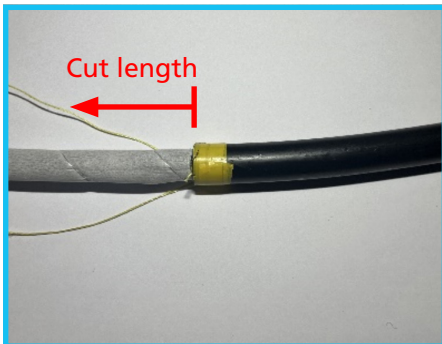

Figure 4.1
1. Markup the cable at the length detailed in [table 1] and remove the outer sheath and steel tape armour [figure 4.1].